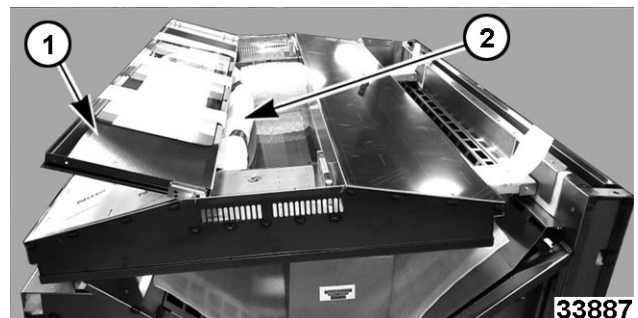

Fig. 54
- 1. With door still on the dolly(ies), open outer door glass (1, Fig. 54) to access and remove door handle (2, Fig. 54).